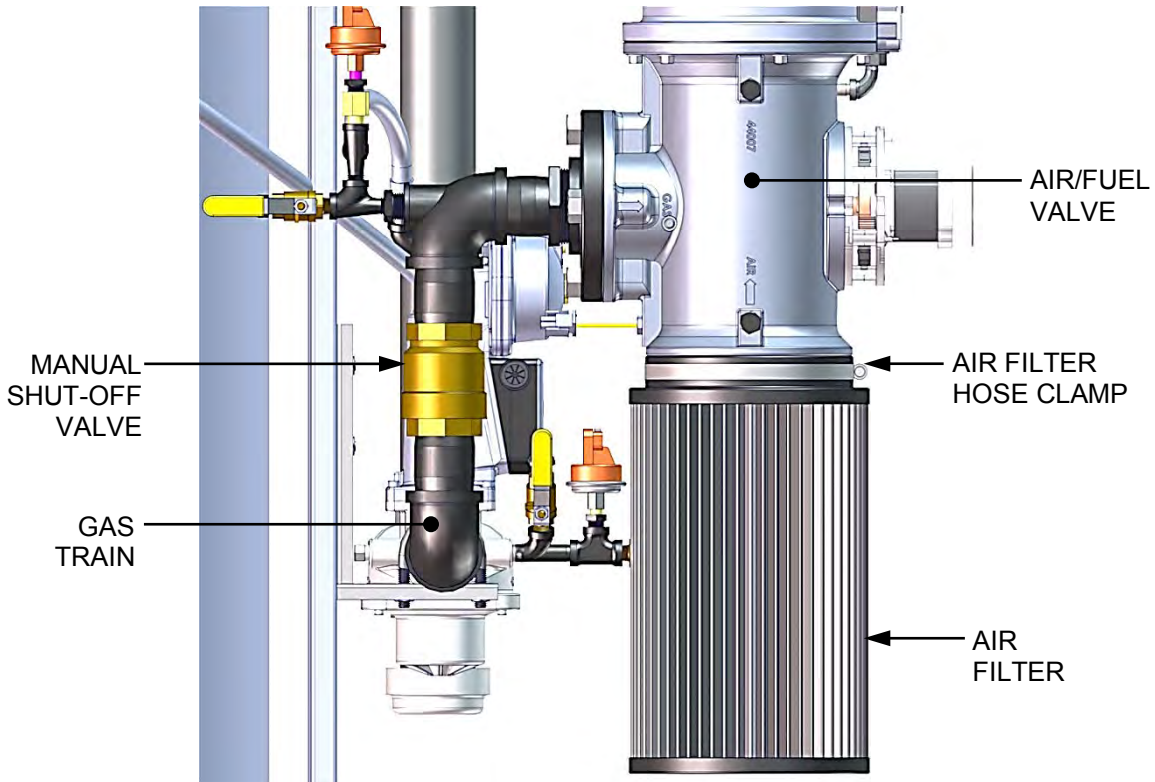

Figure 7-7: Air Filter Location and Removal
The Benchmark boiler is equipped with an air filter which should be cleaned and re-oiled every 12 months and replaced every 24 months. The air filter is located at the inlet of the air fuel valve at the top of the boiler as shown in Figure 7-7.
2. Remove the top shroud from the unit by grasping the top handle and lifting straight up. This will disengage the shroud from the four (4) pins in the side panels.
3. Refer to Figure 7-7 and locate the air filter attached to the air/fuel valve inlet.